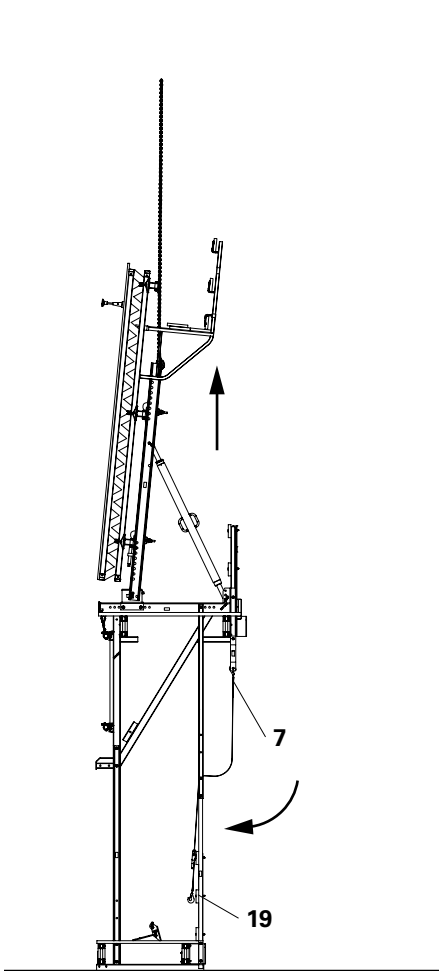

Fig. B1.27
8. Guardrails: for the edge platforms, mount handrail boards (19) using F. H. Bolts DIN 603 M8 x 70 MU, see C1 Guardrails. (Fig. B1.27)